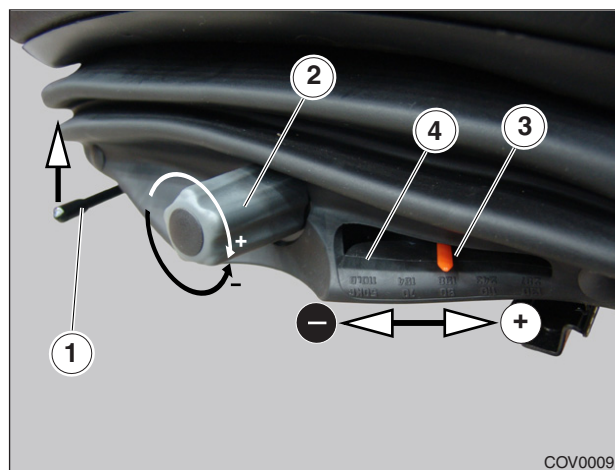

Figure 7.4. - Seat Adjustment
(1) Seat Adjustment
Refer to Figure 7.4. Lifting the lever (1) allows the seat to move forwards or backwards to suit the leg length of the operator. When the lever is released the seat is locked in position.